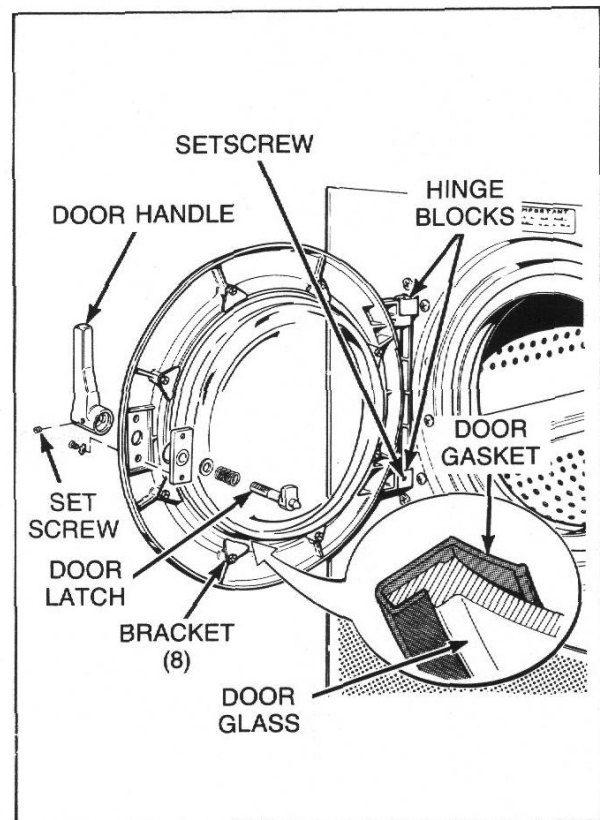

Figure 5
**7. DOOR LATCH AND HANDLE (Refer to Figure 5)**
**8. DOOR GLASS AND GASKET (Refer to Figure 5)**
**9. LOADING DOOR ASSEMBLY (Refer to Figure 5)**